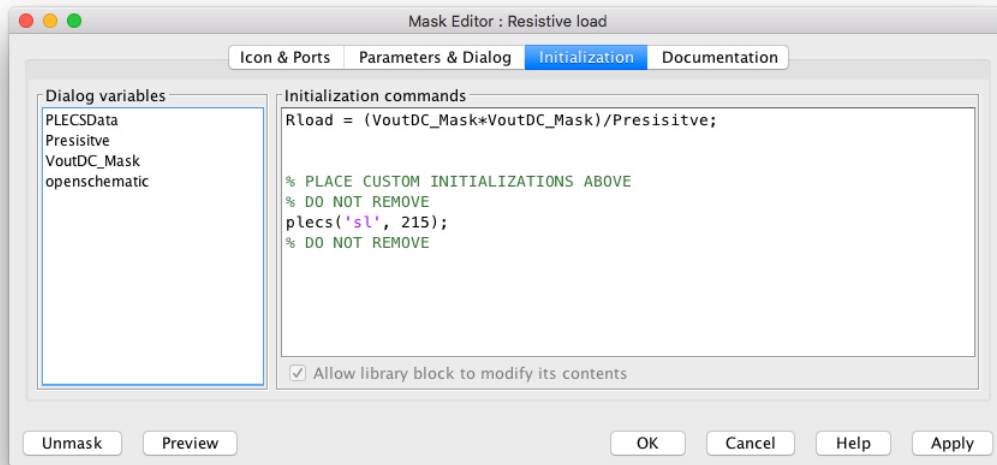

Figure 6: Initialization commands of the Mask Editor
- **Mask initialization:** Variables in a local mask workspace are only visible to the underlying PLECS Circuit. Select the block to initialize mask variables, then choose **Edit Mask** from the **Edit** menu or from the block’s context menu. The initialization commands can be found under the **Initialization** tab, as shown in Fig. 6. In this example the load resistor Rload is calculated in the mask initialization